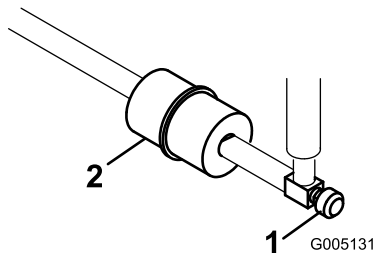

Figure 30
The in-line fuel filter is in the fuel line between the fuel tank and carburetor (Figure 30).
1. Close the fuel-shutoff valve (Figure 30).
2. Place a drain pan under the filter, loosen the hose clamp on the carburetor side of filter, and remove the fuel line from the filter (Figure 30).
3. Loosen the other hose clamp and remove the filter (Figure 30).